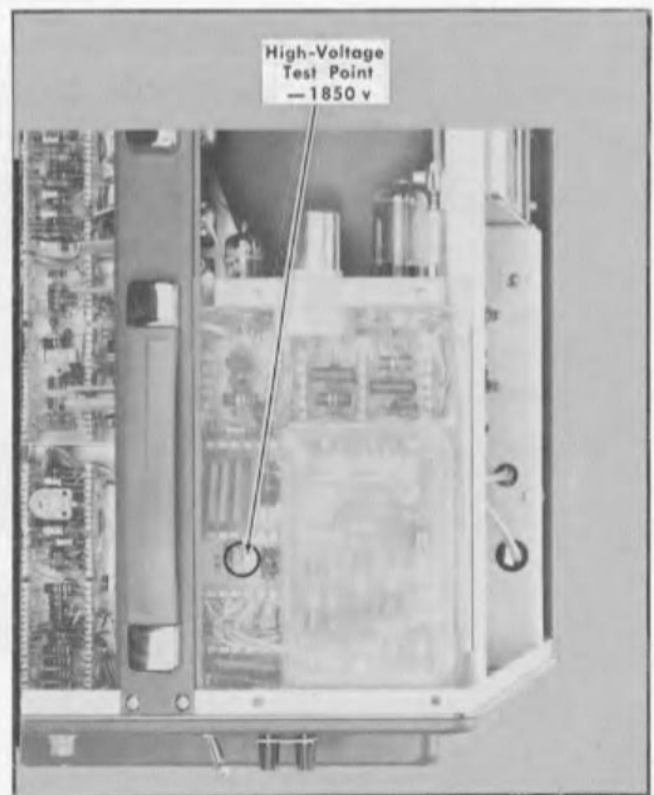

Fig. 5-3. High-voltage test point location.
- a. Set the range of the voltohmmeter to measure -1850 volts and connect the voltohmmeter to the high-voltage test point (see Fig. 5-3).